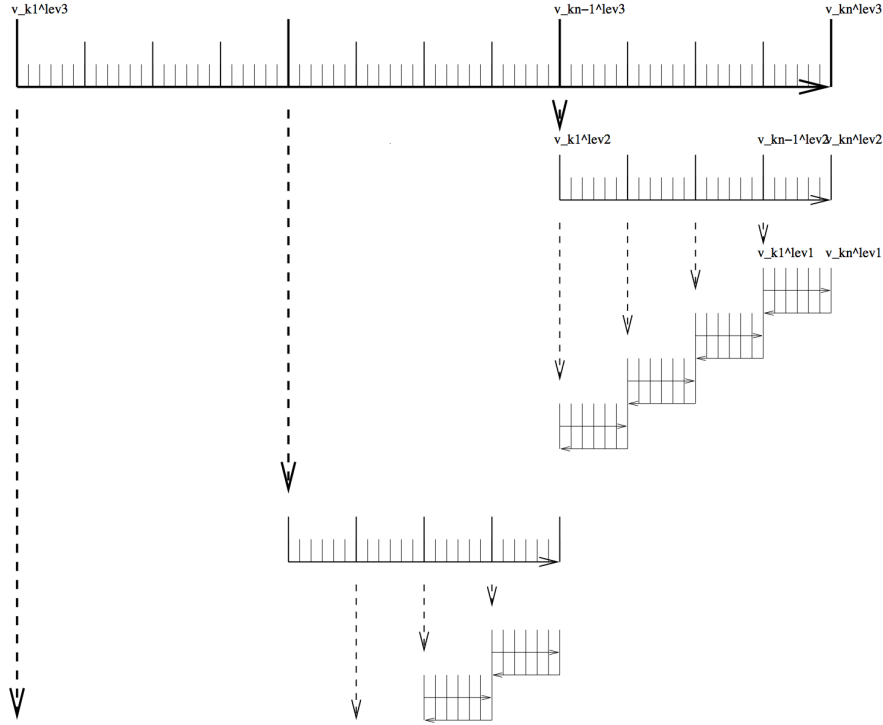

Figure 5: Schematic of the checkpointing procedure used by the adjoint model
3. the forward model runs through once, creating a number of checkpoints (effectively model restarts) along the way (tall black lines in the top row of Figure 5).
2. The forward model runs again, restarting from the final checkpoint and creating a series of more frequent checkpoints between it and the run end (medium black lines in the second row of Figure 5)